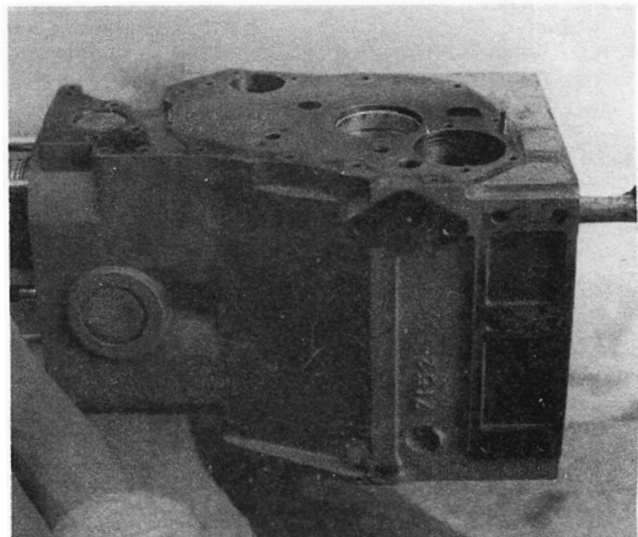

Figure 5
33. Remove the bolts and bearing caps from the connecting rods. Then remove the piston and connecting rod assembly by tapping the assembly out towards the top of the cylinder block with a hammer handle, Figure 5.